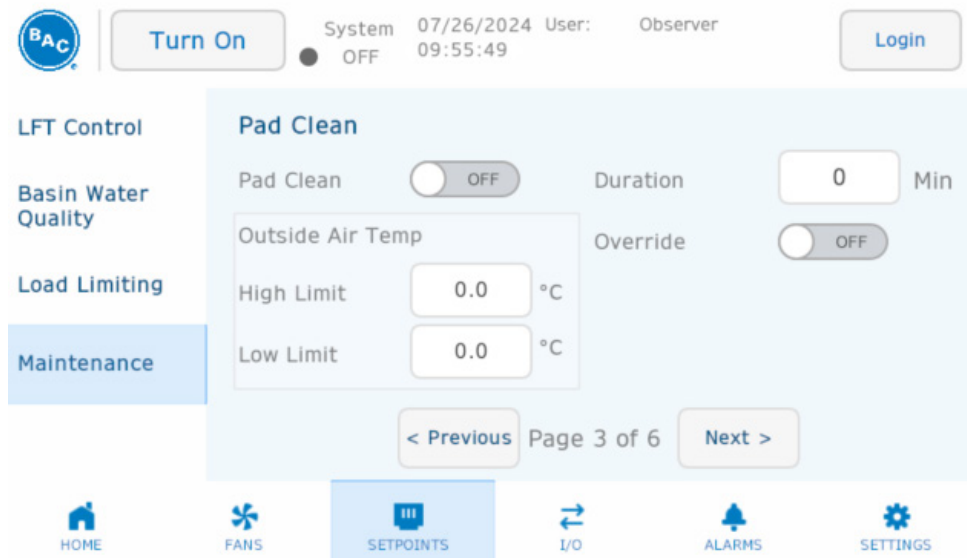
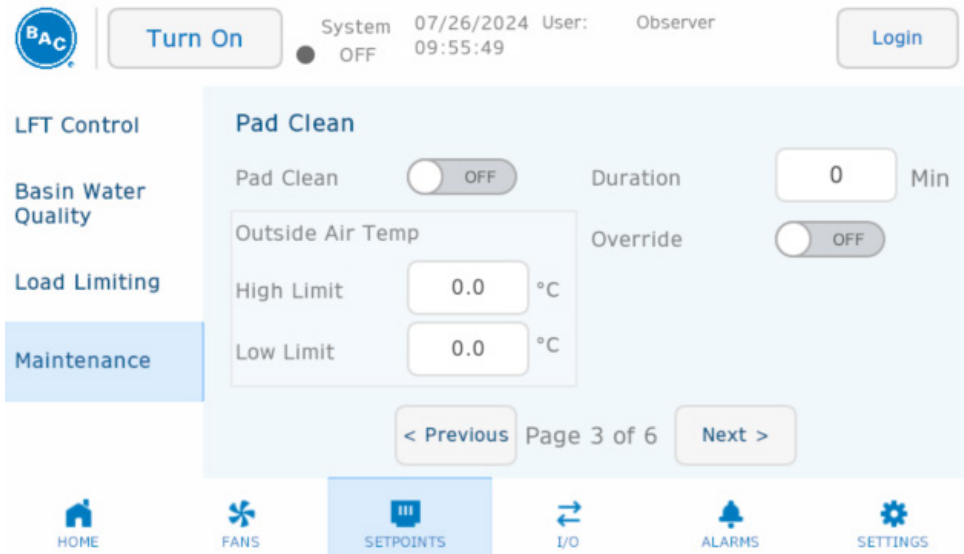

Figure 72. Setpoints Menu, Maintenance Page 3 of 6
Figure 73. Setpoints Menu, Maintenance Page 4 of 6
- Pad Clean maintenance mode shown in **Figure 72** and **Figure 73** with parameters listed in **Table 20**.